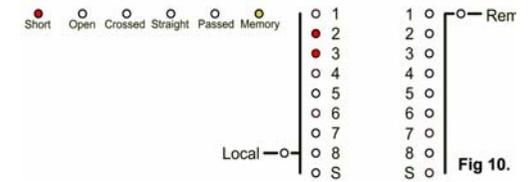

Fig 10.
- a) A short was found, at the local end within the connector, where no connection existed before (Fig10.).